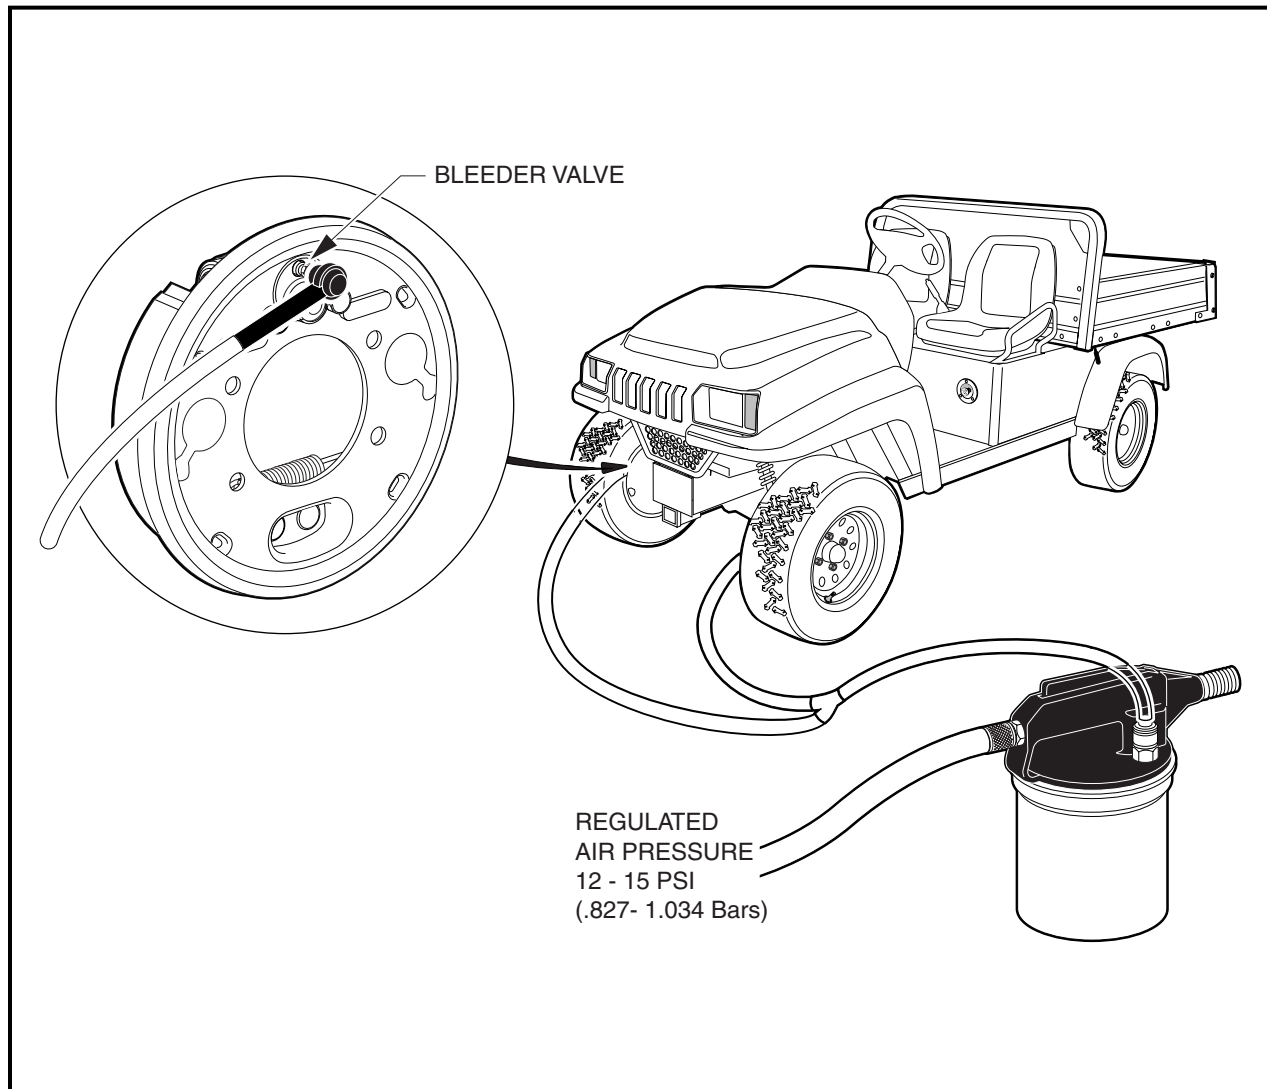

Figure 6-23 Front and Rear Brake Bleeding
- **Front brakes only:** Connect the two hose fittings from a vacuum type brake bleeder to the brake bleeder valves on the back of each of the front wheel brake cluster assemblies (**Figure 6-23, Page 6-32**). Proceed to step 8.